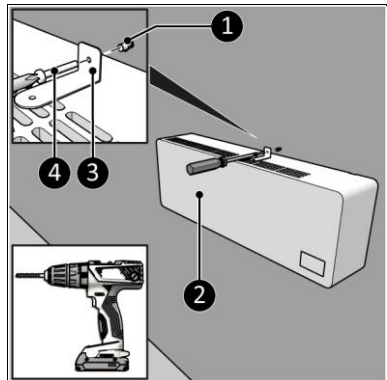

Figure 9
10. Place the supplied bracket on top of the heater (Figure 9, pos.2) with the short side against the wall.
13. Drill a hole at the marked spot and insert a plug (Figure 9, pos. 3).